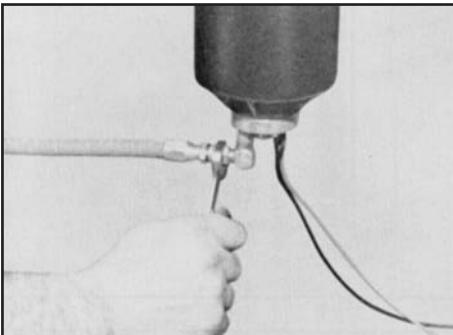

FIGURE 1
Step 1: Disconnect purge control line and heater wires (see FIGURE 1).